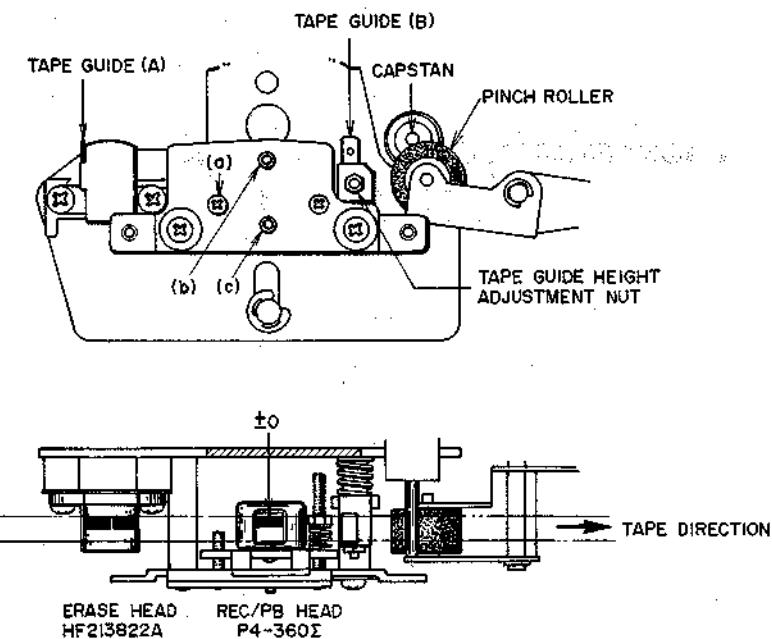

Fig. 15 Head Adjustment
1. TAPE GUIDE HEIGHT ADJUSTMENT (Refer to Figs. 15, 16)
- 2) At playback mode, using the Tape guide (A) shown in Fig. 15 as standard for height, adjust tape guide (B) height with tape guide height adjustment nut so that the tape runs smoothly and does not catch on the tape guides.
2. RECORDING/PLAYBACK HEAD HEIGHT (Refer to Figs. 15, 16)
- 2) As shown in Fig. 15, adjust head height with screws (a), (b) and (c) until the upper edge of the tape is the same height as the upper edge of the left channel REC/PB head core.
(Refer to Fig. 15)
- 1) Playback a 10 kHz pre-recorded cassette azimuth alignment test tape and adjust screw (a) shown in Fig. 15 to obtain maximum output on both channels.